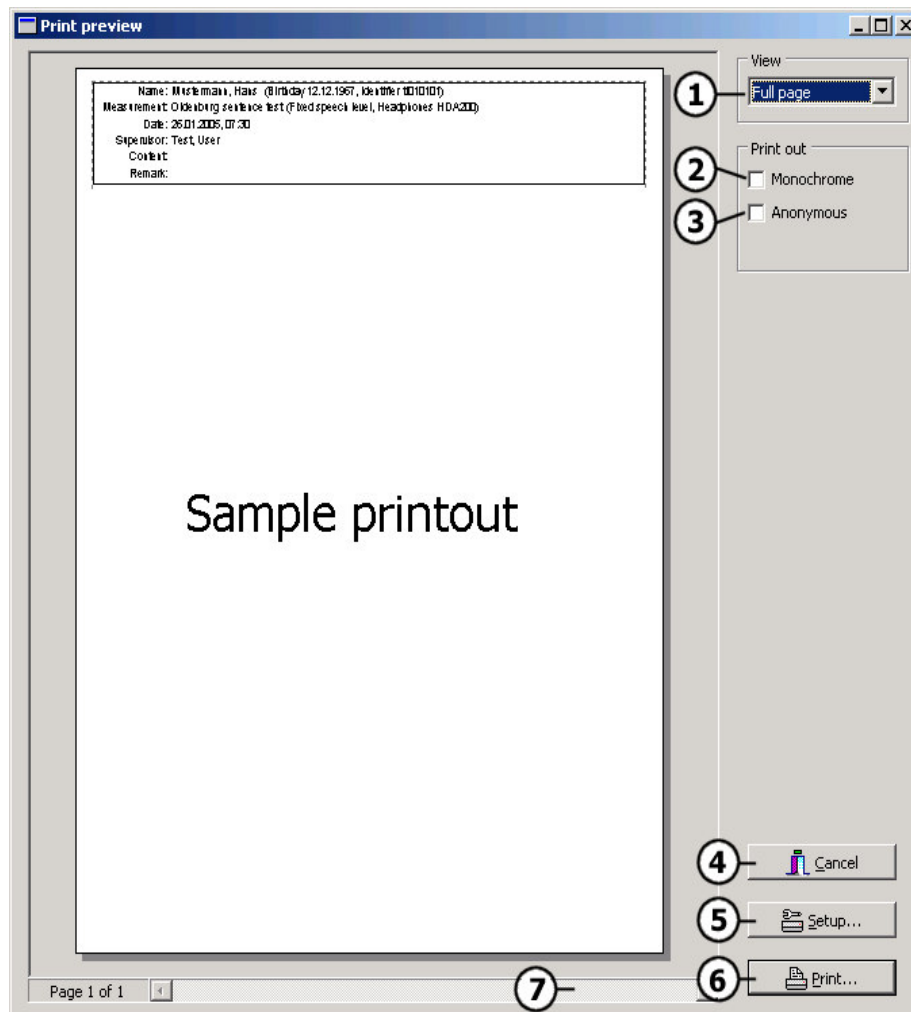

Figure 16
If you click button ⑦ 'Print' (see above) the standard printer configuration dialog is shown. If you click button ⑥ 'Print preview' a dialog with a print preview containing some controls for the configuration of the printout (*Figure 16*):